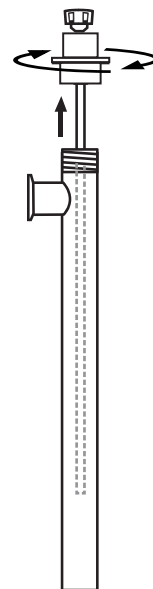

Figure 7
7. For stainless steel models (i.e. 7600-7700, 9714-9717 & 9904-9913), remove connection flange from inner/outer tube assembly by turning clockwise (see Figure 7).